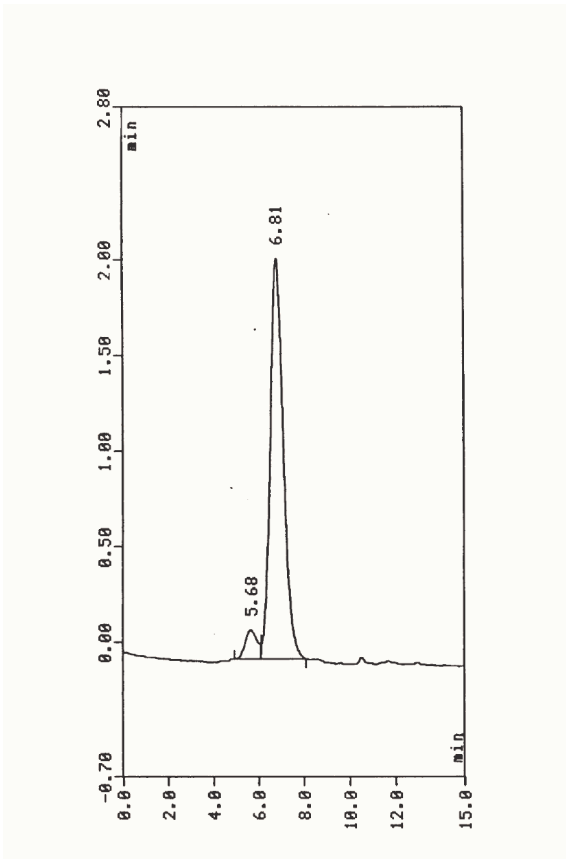
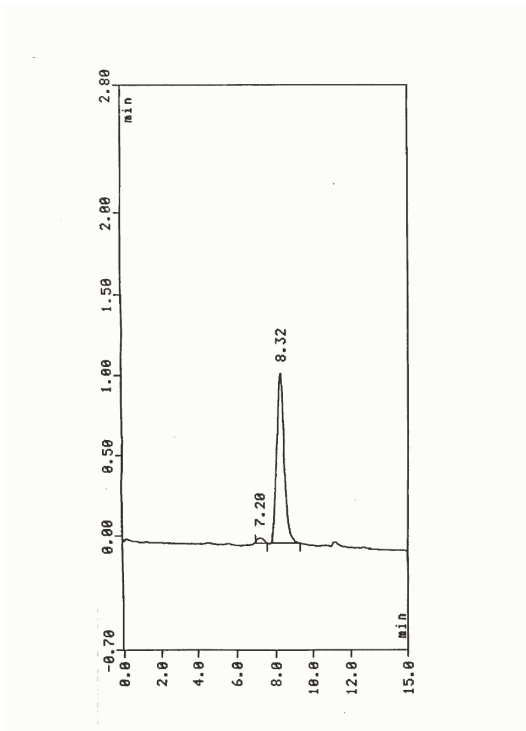
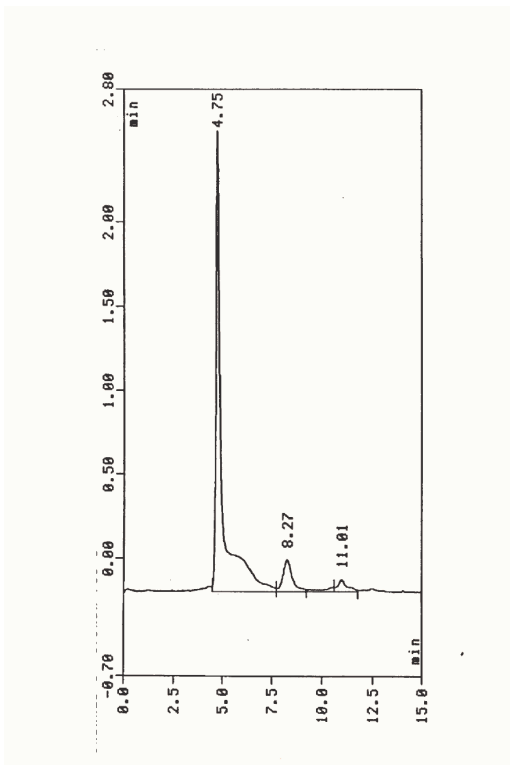

Fig. 1: HPLC, TSK-3000; IgG from rabbit.
Fig. 2: HPLC, TSK-3000; Peroxidase (POD).
Fig. 3: HPLC, TSK-3000; Conjugate of IgG and POD.
- During the reaction, more than 75% of the IgG is conjugated and only 20% of the immunoglobulin remains uncoupled (Figure 3). The conjugate does not need to be purified for normal immunoassay procedures. Residual amounts of free peroxidase after conjugation do normally not interfere with such procedures.
For high reproducibility, reactions should be carried out under HPLC TSK-3000 control. Figures 1 to 3 show the TSK-3000 profiles of the starting material, immunoglobulin G from rabbit (Figure 1), POD (Figure 2), and the final product (Figure 3). The IgG is completely bound in the conjugate, corresponding to the TSK-3000 separation profile of Figure 3.